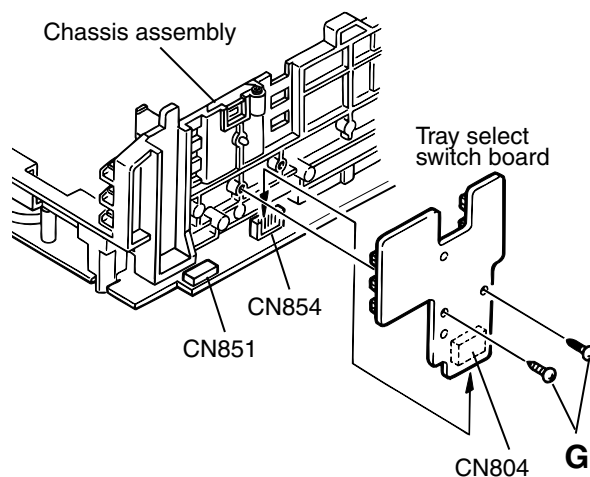

Fig.14
■ Removing the tray select switch board (See Fig.14)